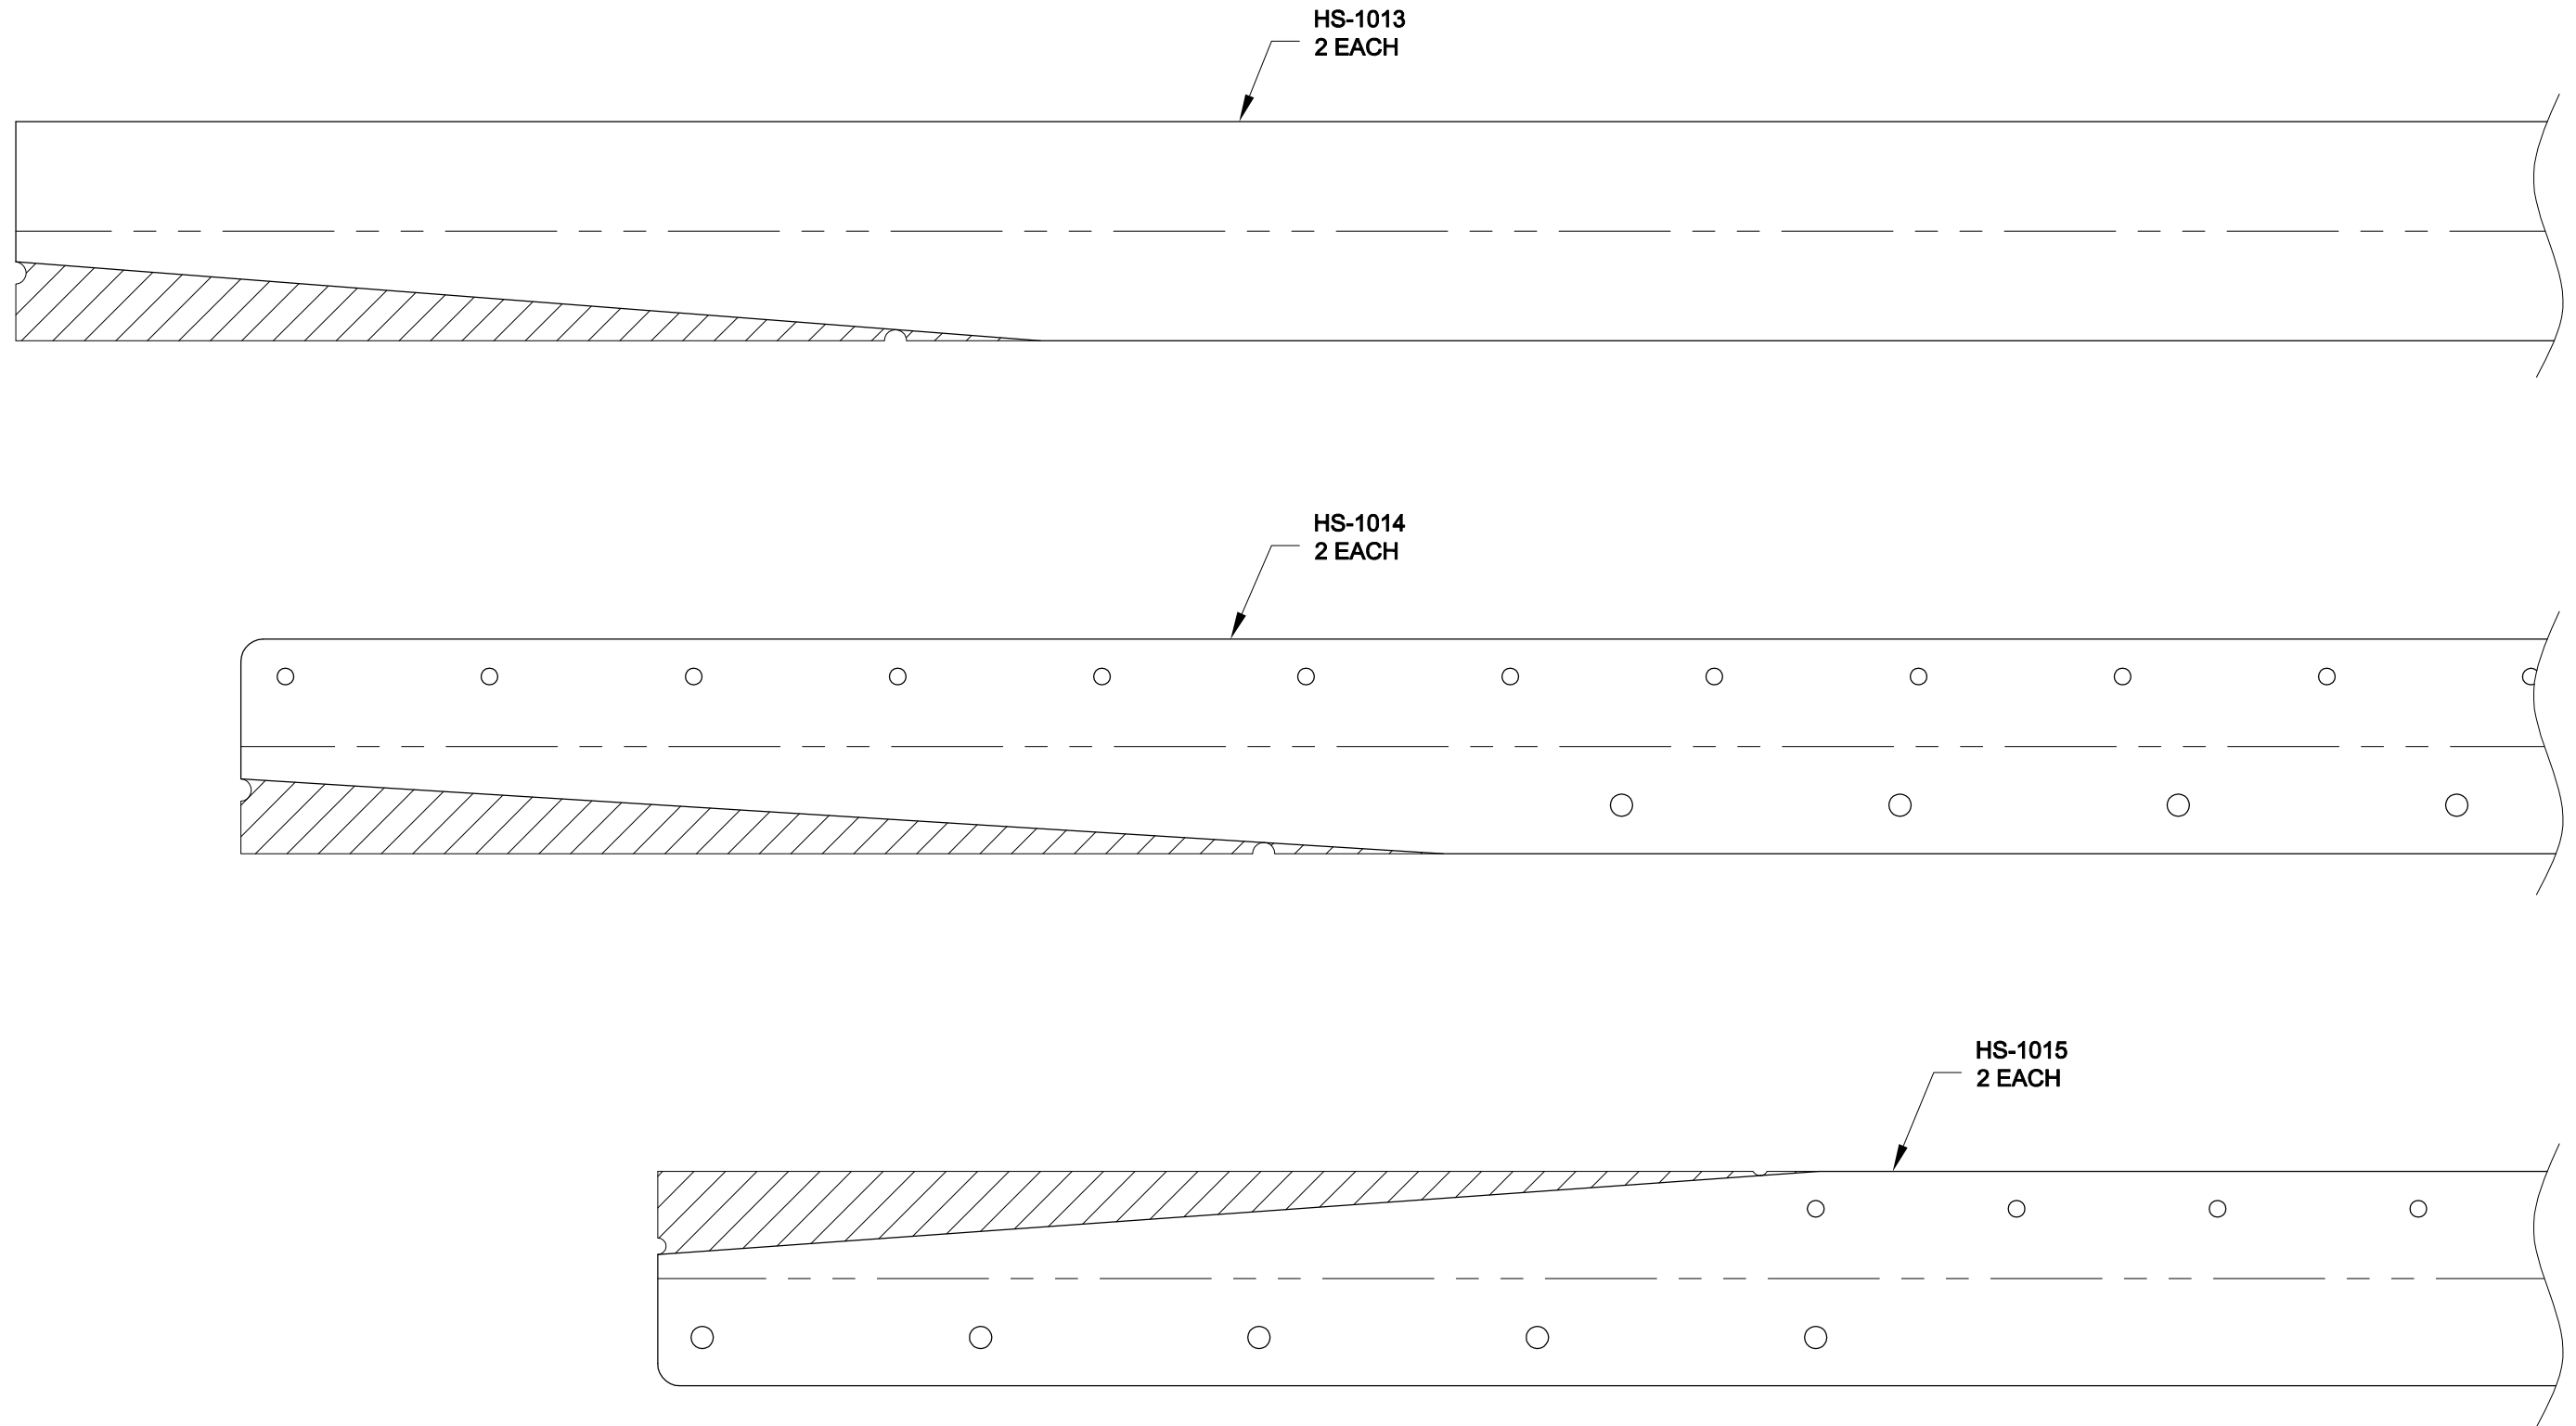

**FIGURE 4: RIGHT FRONT SPAR ATTACHMENT BRACKET**
**Step 4:** Repeat Step 3, but use the dimensions in Figure 4, to make the HS-1008-R Right Front Spar Attachment Bracket.